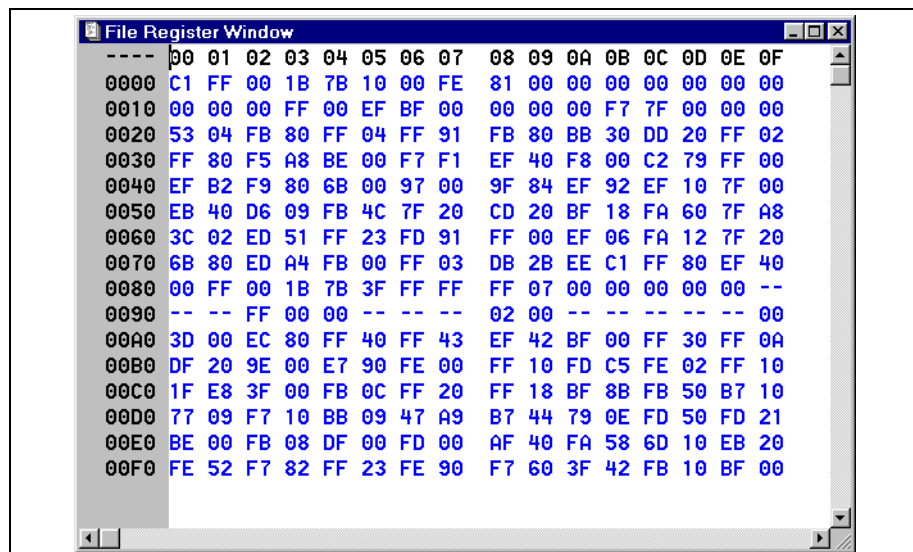

Figure 7.70: File Register Window – Hex Display
- **Hex Display** – This displays the file registers as hex data (Figure 7.70).